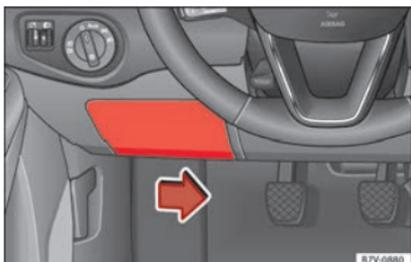

Fig. 60 On the driver-side dash panel: fuse box cover
- To remove the cover, move the activation lever in the lower part to the right »» **Fig. 60**.